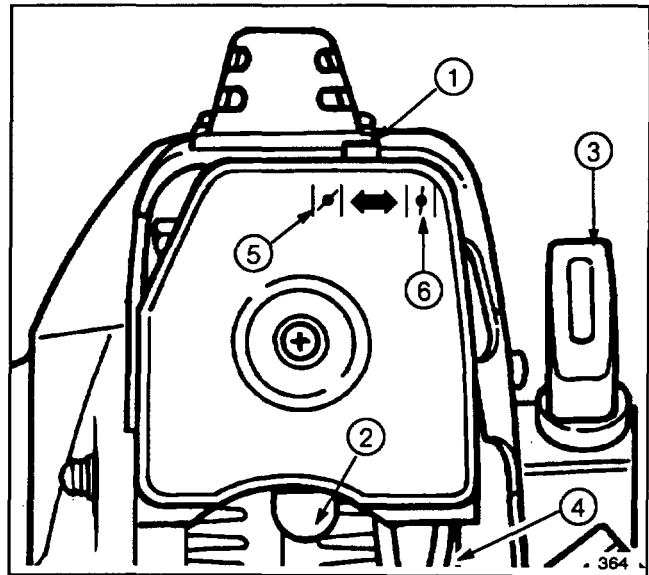

Figure 7
2. Move choke lever to OPEN position (to RIGHT) (Fig. 7).